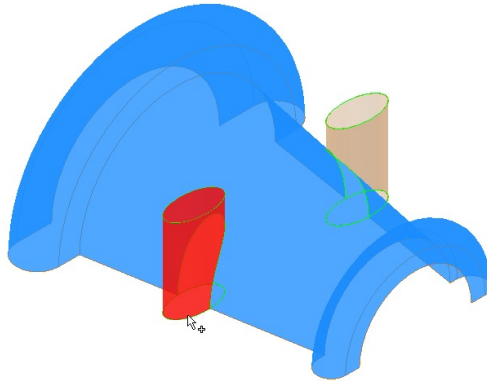

Figure 14-57 *Trimming one of the extruded surfaces*
4. Using the base surface as the cutting tool, trim the remaining portion of the extruded surface on the left of the base surface, as shown in Figure 14-57.